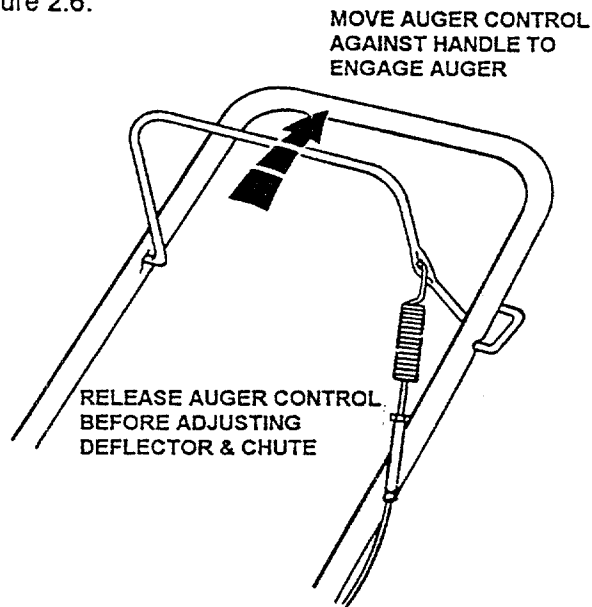

FIGURE 2.5
1. Pull auger control against handle to engage auger. See Figure 2.5.
1. Pull auger control against handle to engage auger. Refer to Figure 2.5.